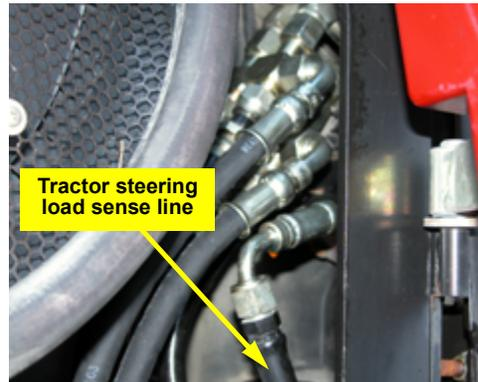

Figure 6b: Load sense line - to be disconnected
- b. Locate the small load sense hydraulic line on the left side of the steering orbital. Disconnect the junction of the load sense hose where it makes an elbow transition (Figure 6b).